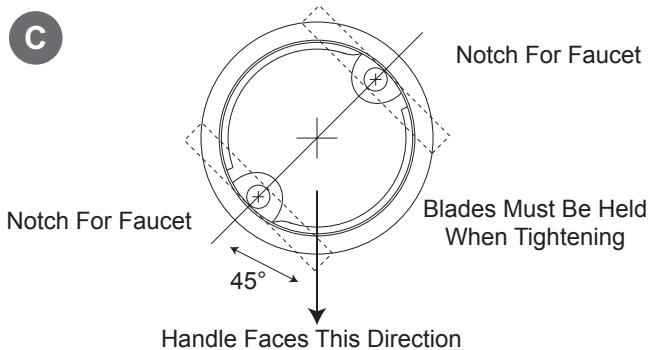

Figure 5
- C. Look down through the base for this step. Before tightening the bolts, determine the correct rotation of the base. The final position of the handle will be 45 degrees off from the bolt heads. Use Figure 5 to help determine the best position for your installation. Through the hole in the base, hold the toggle in position while tightening the bolt. The spring loaded toggle will contact the bottom of the counter top and hold in position. Do not fully tighten. Repeat for second toggle bolt. Check the final position of the base and toggle bolts. Tighten the two bolts evenly. DO NOT OVERTIGHTEN. Tighten only far enough to prevent the base from rotating when the faucet is rotated in place.